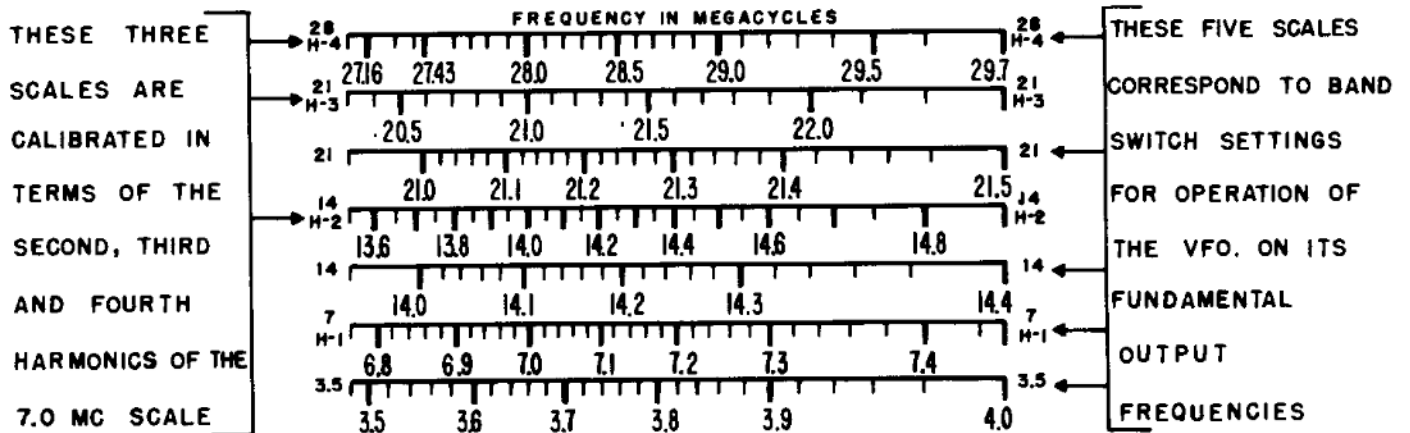

Figure 4. Dial scale calibrations
V.F.O. Operation - Set OPERATION switch at M.O., BAND SELECTOR control for the band of frequencies required to obtain the desired output frequency from the final amplifier stage of transmitter being driven by the HT-18. For example, if a doubler stage follows the HT-18 unit, then the HT-18 output will have to be one-half the frequency of the final amplifier stage, etc. Referring to Fig. 4, you will note that there are five calibrated scales showing the output frequency of the V.F.O. unit. These five scales indicate carrier frequency when the transmitter being driven does not have a frequency multiplier stage. In addition to the five fundamental scales, there are three scales which are multiples of the 6.8 to 7.4 mc. scale. The harmonic scales indicate carrier frequency only when the output of the HT-18 is in the 6.8 to 7.4 mc. band. When the transmitter being driven has a doubler stage use the H-2 scale, a tripler stage use the H-3 scale, or a quadrupler or two doubler stages use the H-4 scale. To set the V.F.O. unit to the receiver frequency, set the CHECK switch handle at